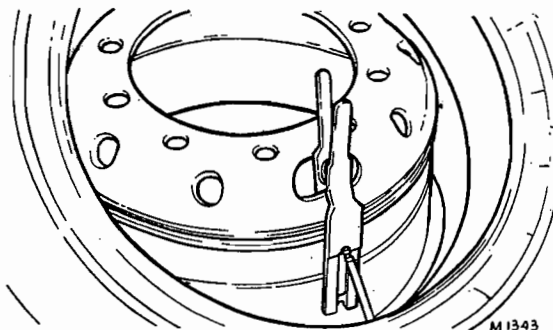

FIG. 5. VALVE ALIGNING TOOL IN POSITION
2. Place the valve guide tool Dunlop VAT/1 or Goodyear 3BT1 in position as shown in Fig. 5 and lay the tyre on the wheel with the valve stem pointing upwards and aligned with the valve aperture.